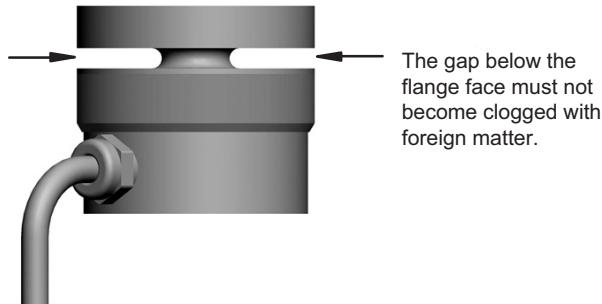

Fig. 5.1 Avoid deposits in the marked areas
*Measurement errors may be the result if dust or dirt is deposited inside the force transducer. The relevant areas are marked by arrows in Fig. 5.1.*